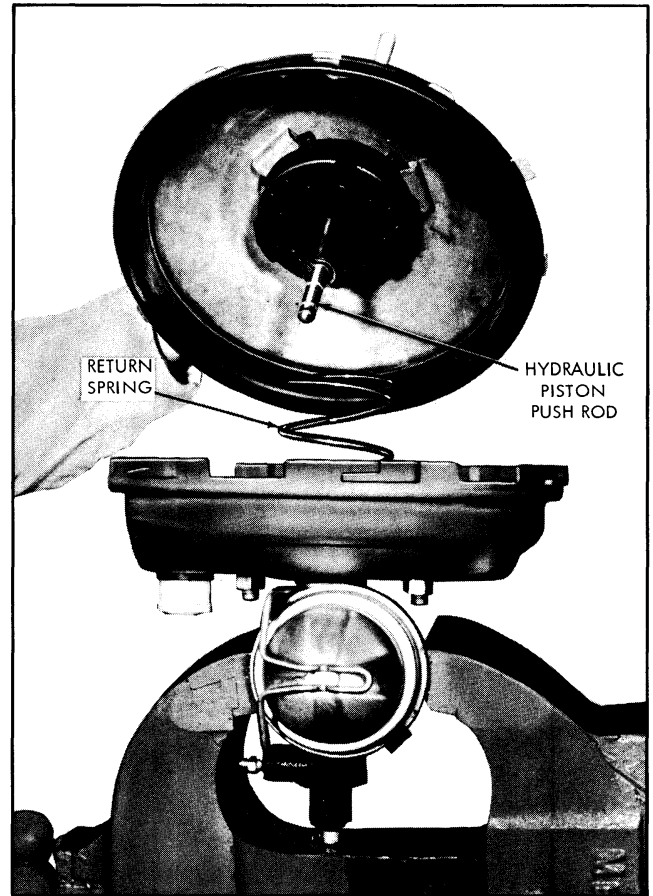

Fig. 5B-7 Removing Rear Housing
9. Remove front housing seal, vacuum check valve and grommet from front housing (Fig. 5B-8).